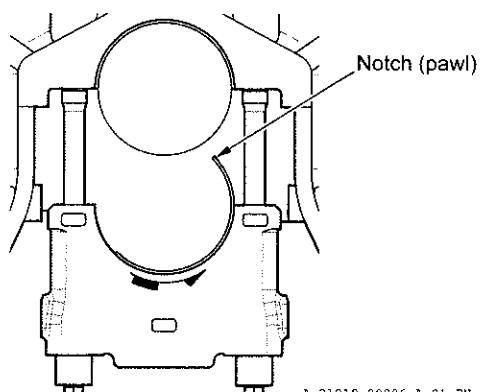

Fig.4 Removing the bottom bearing
15.Remove the bottom main bearing. (Refer to Fig. 4.)